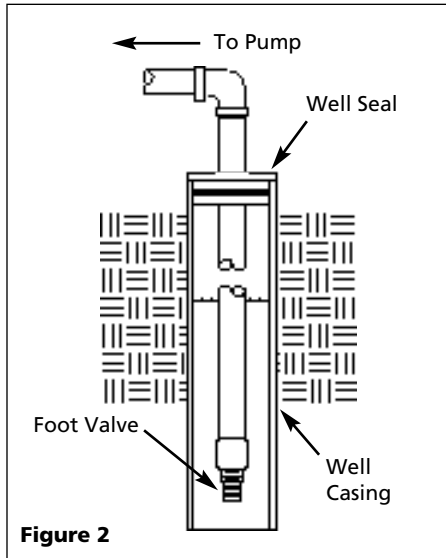

Figure 2
1. Install a foot valve on the first section of pipe (see Figure 2).